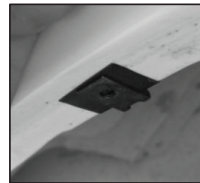

Figure 9
5. Slide the u-clip over the black tabs so they are lined up with the factory hole locations as shown in **Figure 9**.